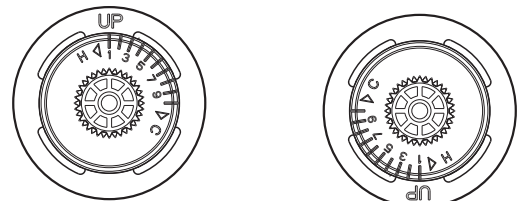

Figure 2.
BACK TO BACK INSTALLATION (FIGURE 2, 3 & 3A)
- Rotate CARTRIDGE (1) 180° so that the Up text is displayed on the bottom side. As shown in FIGURE 2.